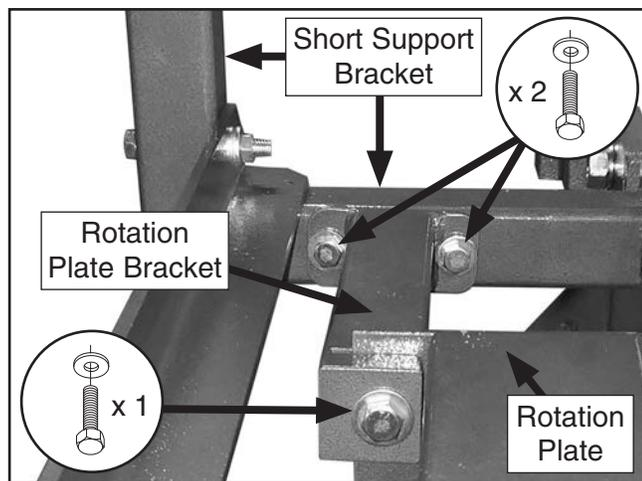

Figure 6. Rotation plate bracket attached to short support bracket and rotation plate.
2. Attach rotation plate bracket to short support bracket with (2) $\frac{5}{16}$ "-18 x $\frac{1}{2}$ " hex bolts and (2) $\frac{5}{16}$ " flat washers (see **Figure 6**), then align hole in short support bracket with hole in rotation plate and loosely secure it with a $\frac{3}{8}$ "-16 x $1\frac{1}{2}$ " hex bolt and a $\frac{3}{8}$ " flat washer.